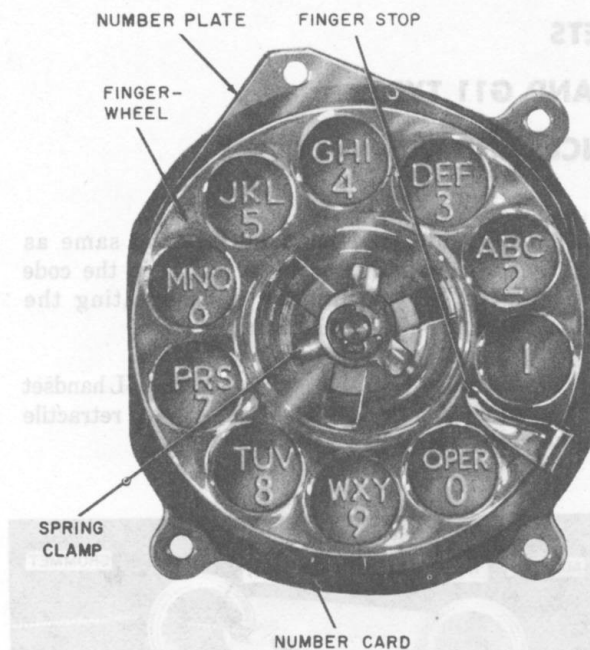

Fig. 1—10-Type Dial, Front View
**2.01** The 10-type dial (Fig. 1, 2, and 3) has a plastic 2-3/8 inch diameter fingerwheel having finger holes on a 10-1/3 division spacing instead of the standard 12 division spacing of the 5- through 9-type dials.